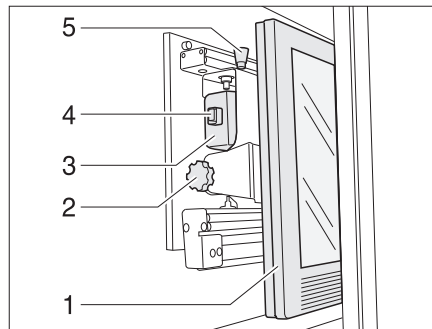

Fig. 131 TV cabinet
- Press the release knob (Fig. 131,5) and pull the holder for the flat screen forward as far as possible by the handle (Fig. 131,4).
- Pull the release knob (Fig. 131,1) and swivel flat screen (Fig. 131,2) to the desired position.
- Loosen knurled screw (Fig. 131,3).